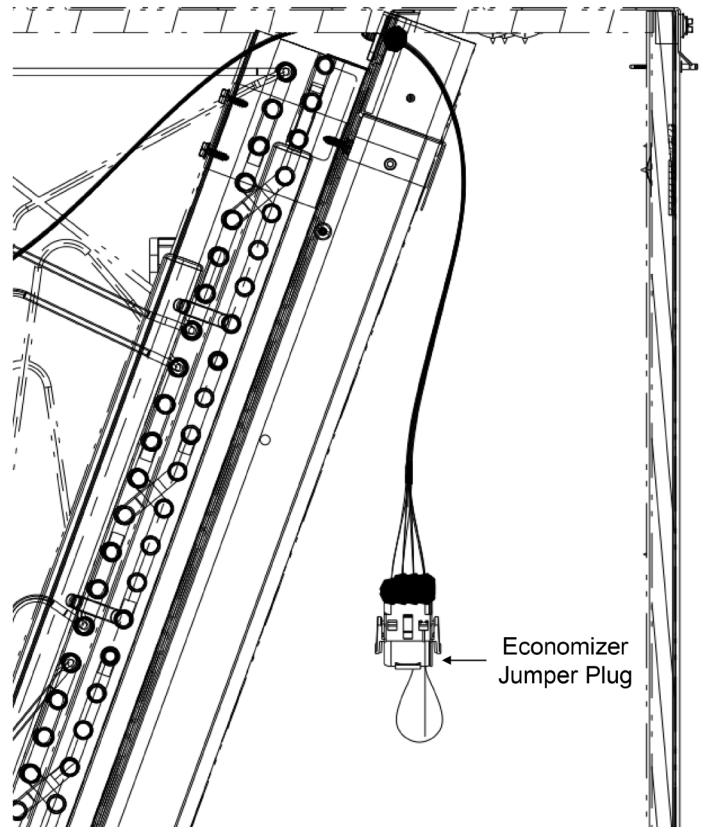

FIGURE 16
**NOTE: For DBC/DBG 7.5 TO 12.5 Ton AND DBH 12.5 TON UNITS, THE FACTORY INSTALLED ECONOMIZER WIRE HARNESS AND JUMPER PLUG WILL BE HANGING FROM THE EVAPORATOR COIL BLOCKOFF (SEE FIGURE 16.)**